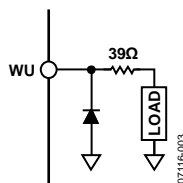

Figure 3. Protection Diode on WU Pin
**Workaround:** It is recommended to use a protection diode such as a BAS52, as shown in Figure 3, to avoid destructive damage to the part.